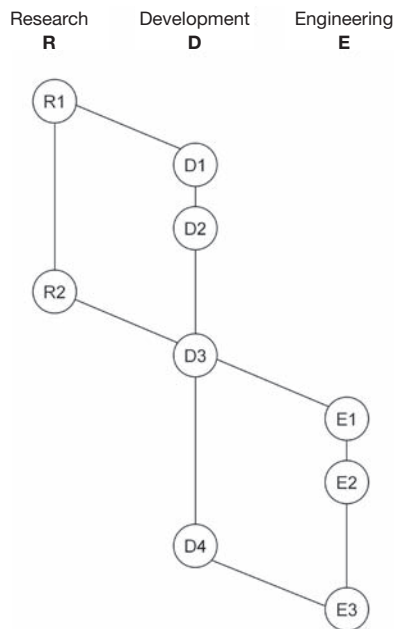

Figure 8.9 Result path diagram
4. Map out the general relationships of the milestones, as shown in Figure 8.9.